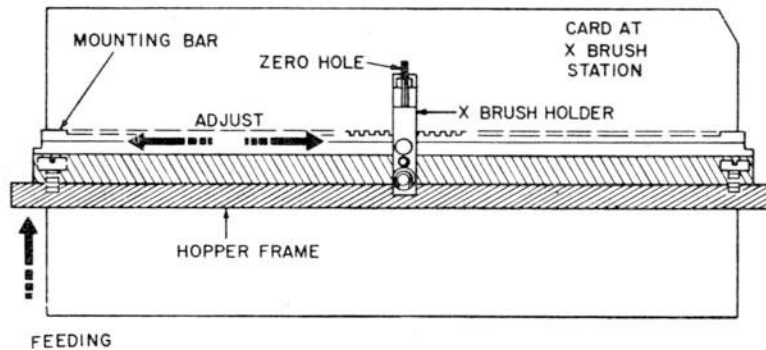

Figure 22. X Brush Lateral Alignment
3. For correct tracking, position the X brush mounting bar horizontally (holding screw hole clearance). (Fig. 22)